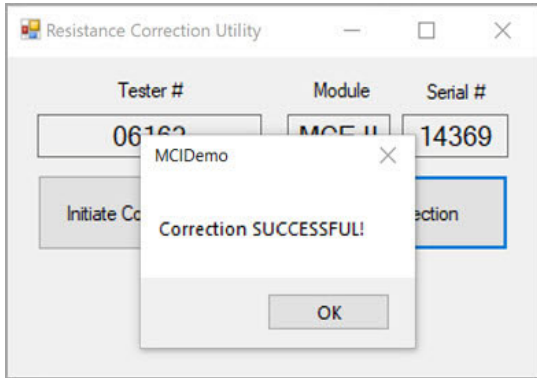

Figure 4
10. After successful application of the calibration correction, the Module and Serial # text boxes will be populated and an MCIDemo window appears indicating the correction was successful. Shown in Figure 4.